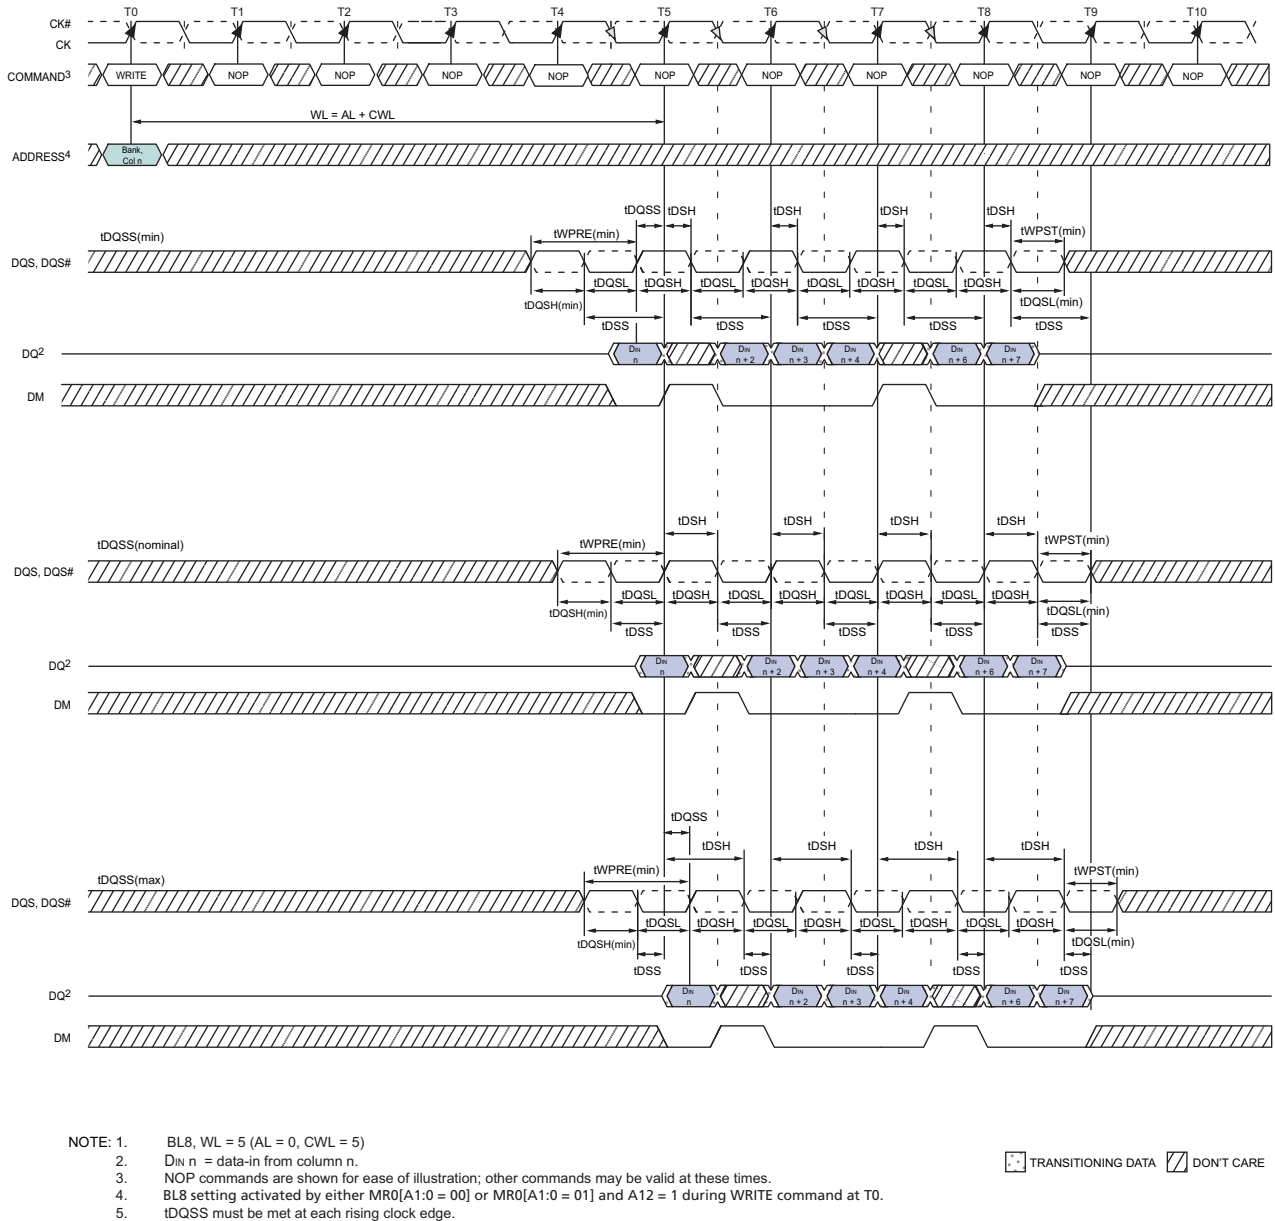

Figure 43 — Write Timing Definition and Parameters
In the example (Figure 43 on page 69), the relevant strobe edges for write burst A are associated with the clock edges: T5, T5.5, T6, T6.5, T7, T7.5, T8, T8.5.
In the example (Figure 43 on page 69) the relevant strobe edges for Write burst *n* are associated with the clock edges: T4, T4.5, T5, T5.5, T6, T6.5, T7, T7.5, T8, T8.5 and T9. Any timing requirements starting or ending on one of these strobe edges need to be fulfilled for a valid burst. For Write burst *b* the relevant edges are T8, T8.5, T9, T9.5, T10, T10.5, T11, T11.5, T12, T12.5 and T13. Some edges are associated with both bursts.
One write data mask (DM) pin for each 8 data bits (DQ) will be supported on DDR3 SDRAMs, consistent with the implementation on DDR2 SDRAMs. It has identical timings on write operations as the data bits as shown in Figure 43, and though used in a unidirectional manner, is internally loaded identically to data bits to ensure matched system timing. DM is not used during read cycles for any bit organizations including x4, x8, and x16, however, DM of x8 bit organization can be used as TDQS during write cycles if enabled by the MR1[A11] setting. See 3.4.3.7 “TDQS, TDQS#” on page 28 for more details on TDQS vs. DM operations.